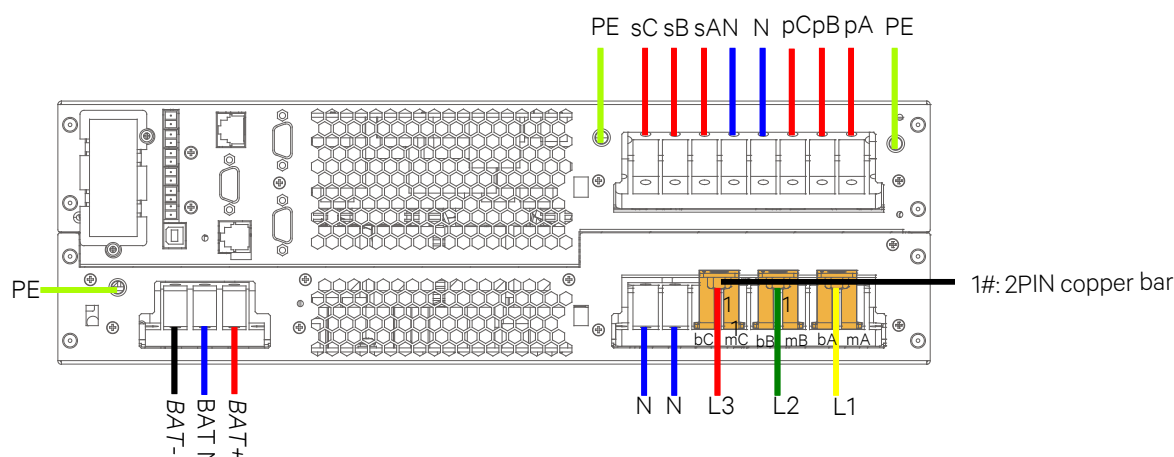

Figure 2-23 Wiring diagram (3-in 3-out, common input configuration)
3. Connect the standard output live wires (phase-A, phase-B and phase-C) respectively to the output terminals sA, sB and sC respectively. Connect the programmable output live wires (phase-A, phase-B and phase-C) respectively to the output terminals pA, pB and pC. Connect the output N line and output PE line respectively to the output terminals N and PE. As shown in Figure 2-23.
4. As shown in Figure 2-23, lead the battery positive cable, battery N cable and battery negative cable through the cable hole of the junction box, then respectively connect them to BAT+, BAT N, BAT- and PE, then fasten the fixing screws.